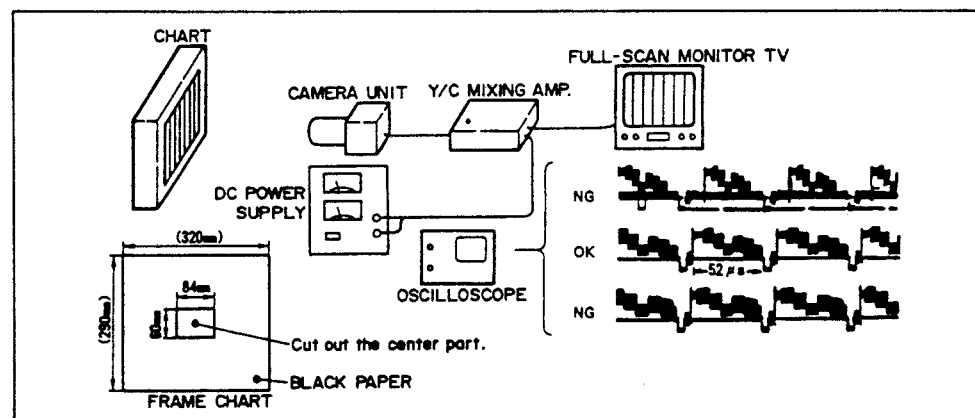

Fig. II-3
- (1) Before adjustments, warm up the camcorder for more than 3 minutes.
- (2) Use a light box of 5600°K temperature.
- (3) Make a frame chart as illustrated in Fig. II-3.
- (4) Set the standard angle of view for each chart as follows.
To make a standard angle of view with a full scan monitor, shoot the chart full in the screen. (Fig. II-3)
To make a standard angle of view with an oscilloscope, set the range to 20 μ s (video signal) as shown in Fig. II-3 and align the each center of chart and screen.